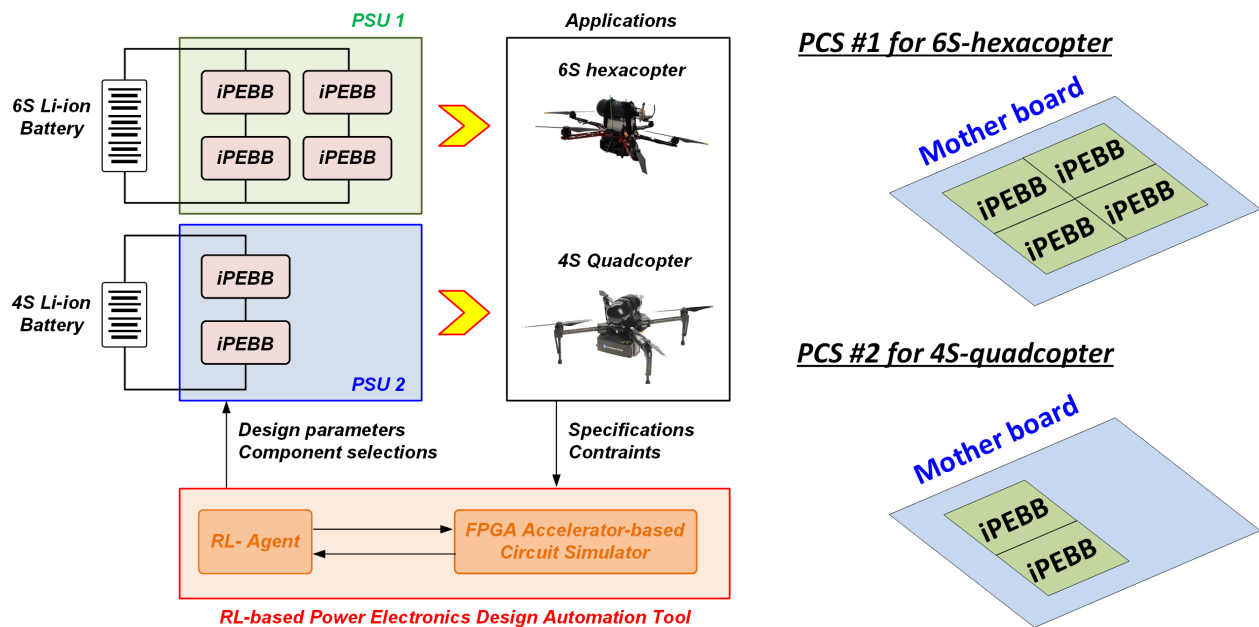

Figure 1. Overview of Capstone Design Project
The anticipated best outcome of this project, as presented in Figure 1, is a fully functional prototype of two power conversion systems (PCS #1 and #2) for two different drone applications, 6-stack (S) hexacopter and 4-S quadcopter) along with a power electronics design automation (PEDA) tool, implemented on heterogeneous computing using Amazon Web Services (AWS), OCT-FPGA, or others. First, based on the design outcomes from the PEDA tool and human effort, a single iPEBB will be designed, implemented, and evaluated to meet the electrical requirements, including a comparison of the two design outcomes. Subsequently, multiple iPEBBs will be configured and evaluated, and finally demonstrated by assembling them into two drones.